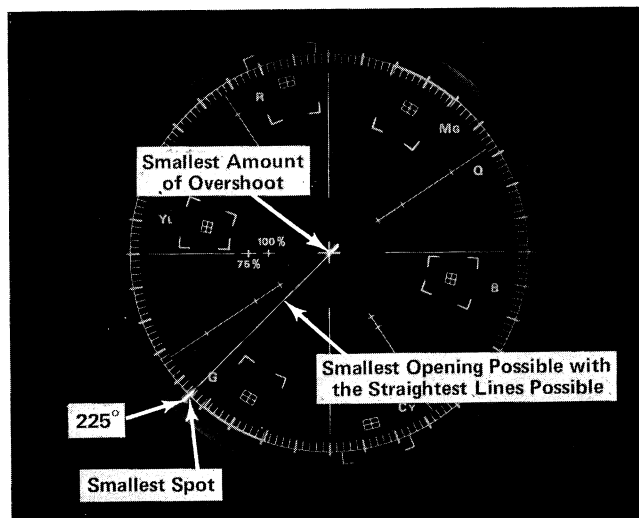

Fig. 6-21. Waveform areas to observe when adjusting horizontal amplifier transient response.
n. CHECK—Type 520 display; should be similar to that shown in Fig. 6-21. The displayed vector should be located at 225°, have minimum overshoot (small spot size), and minimum loop amplitude (smallest loop opening).